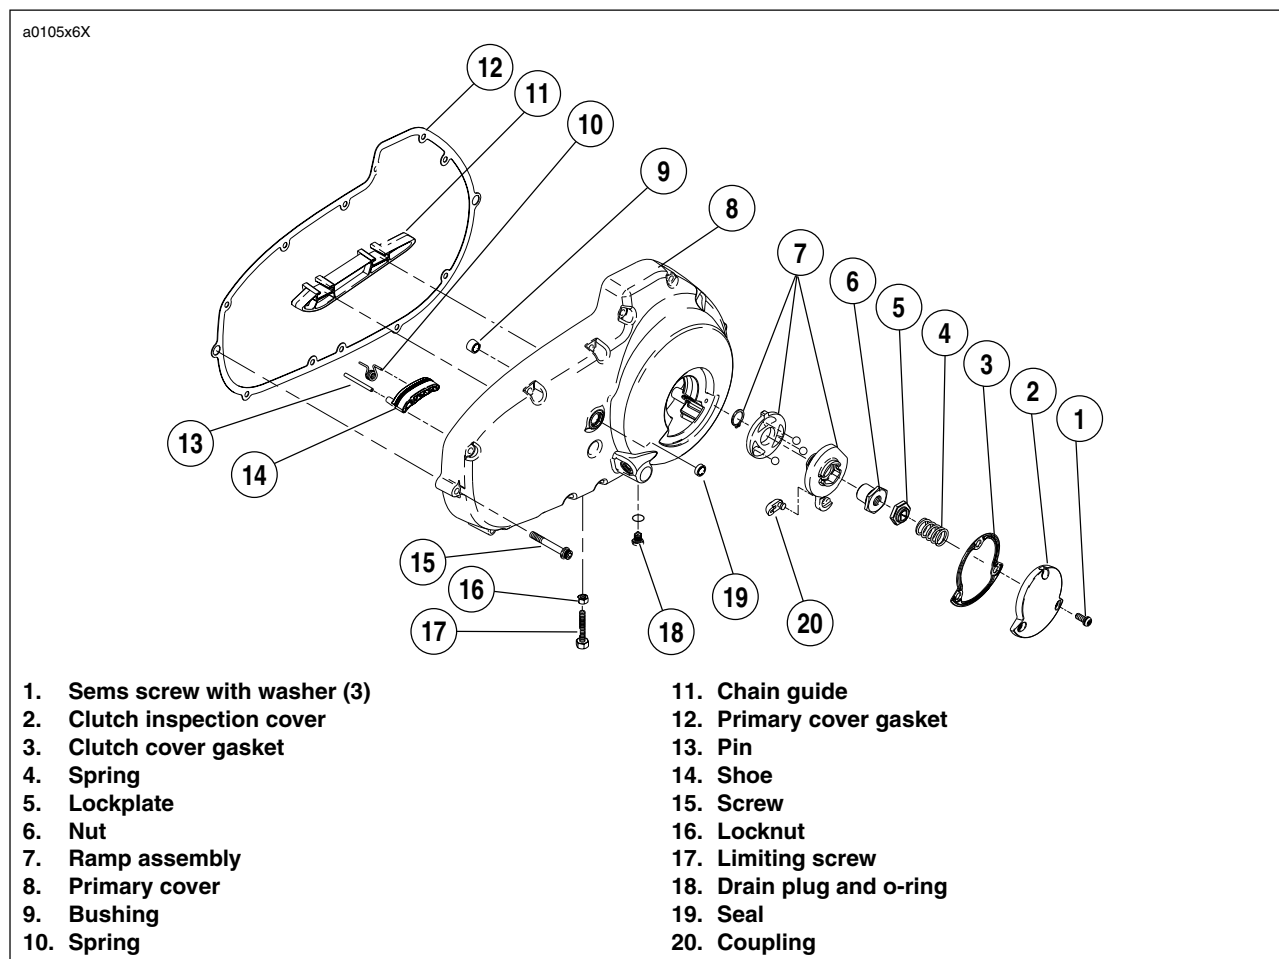

Figure 6-8. Clutch Release Mechanism
5. See Figure 6-8. Remove three sems screws with washers (1) and clutch inspection cover (2).
6. Slide spring (4) with attached screw lockplate (5) from flats of adjusting screw.
7. Turn adjusting screw clockwise to release ramp (7) and coupling mechanism (20). As the adjusting screw is turned, ramp assembly moves forward. Unscrew nut (6) from end of adjusting screw.
2. See Figure 6-8. Inspect three balls of release mechanism and ball socket surfaces of inner and outer ramps for wear, pitting, surface breakdown and other damage. Replace parts as necessary.